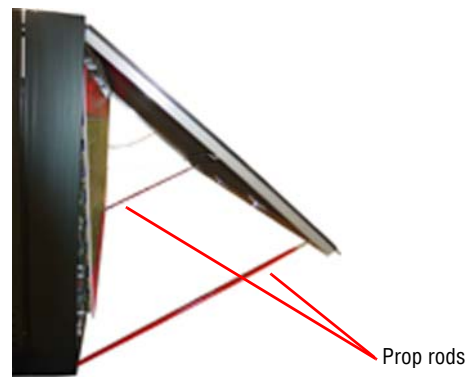

Figure 17: Lifting the sign door
7. Raise each prop rod for the door and fasten under the door. See Figure 17, "Lifting the sign door," on page 37.